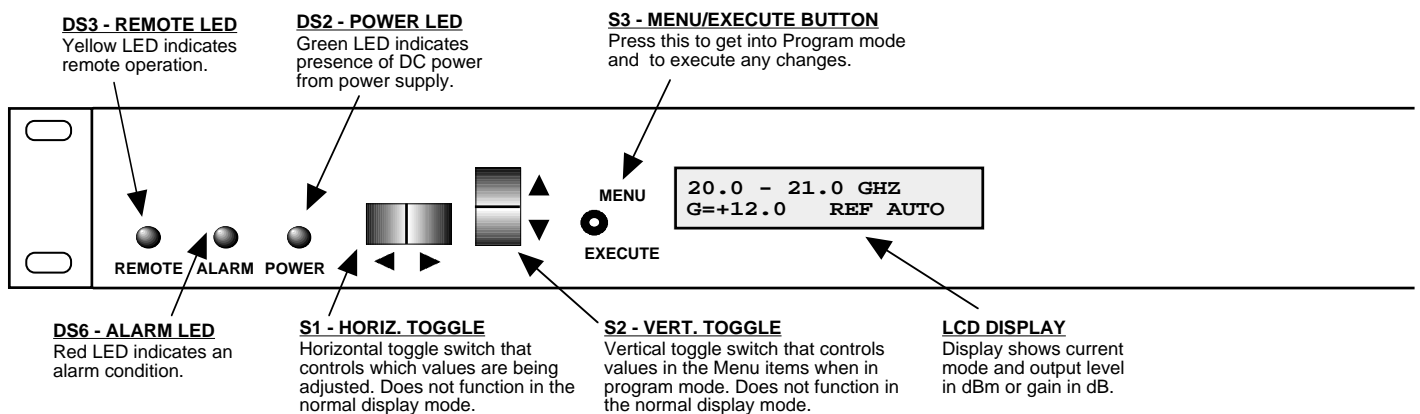

FIGURE 2.2 3115-200 Front Panel Controls and Indicators
Figure 2.2 shows the front panel controls and indicators.
5. Be sure DS2 (green, DC Power) is on and DS6 (red, Alarm) is off (Figure 2.2).
Alarm indications appear on the LEDs (see Figure 2.2).